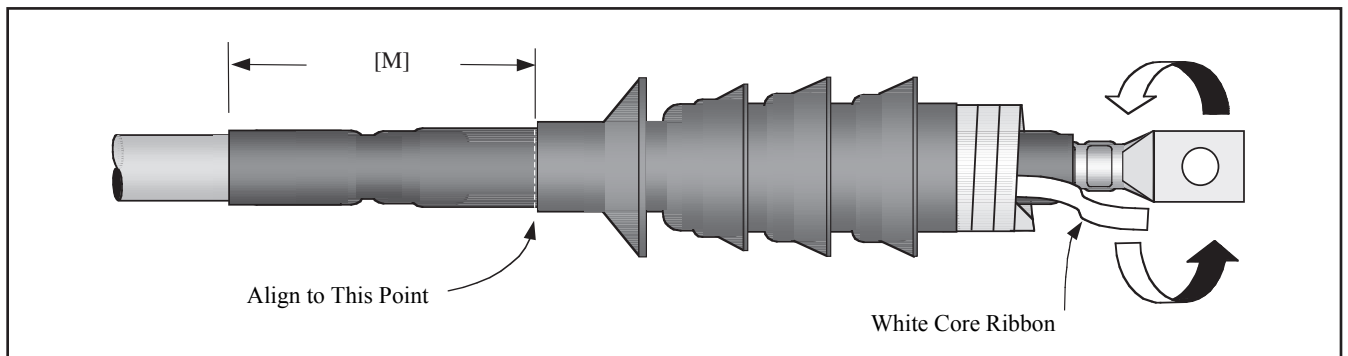

Figure 24
- (a) Position skirted insulator over previously installed tubular termination as shown (Figure 24).
- (b) Align skirted insulator body (not the core) to install Dimension [M] from base of tubular termination (Figure 24).
- (c) Grasp the loose white core ribbon (Figure 24). Pull and unwind, counter-clockwise, around cable phase end.